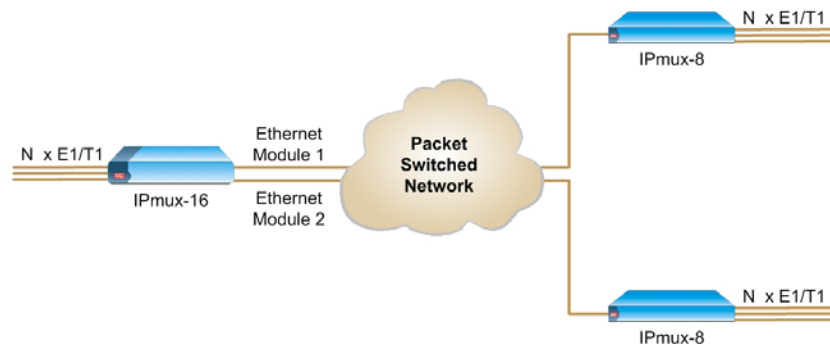

Figure 1-7. IPmux-8/16 Point-to-Point Application
- **Star (point-to-multipoint):** Multiple remote locations transport one bundle each to a central site that is capable of grooming the bundles into its E1 or T1 channel (see Figure 1-7).
IPmux-8/16 modules support E1/T1 interfaces. E1/T1 bundles, composed of several timeslots (1–31 for E1, 1–24 for T1), can be defined. Each bundle can be connected to a different destination bundle anywhere on the network (see Figure 1-7). In addition, IPmux-16 units with channelized T3 TDM interfaces supports up to 28 bundles with one unframed T1 per bundle.